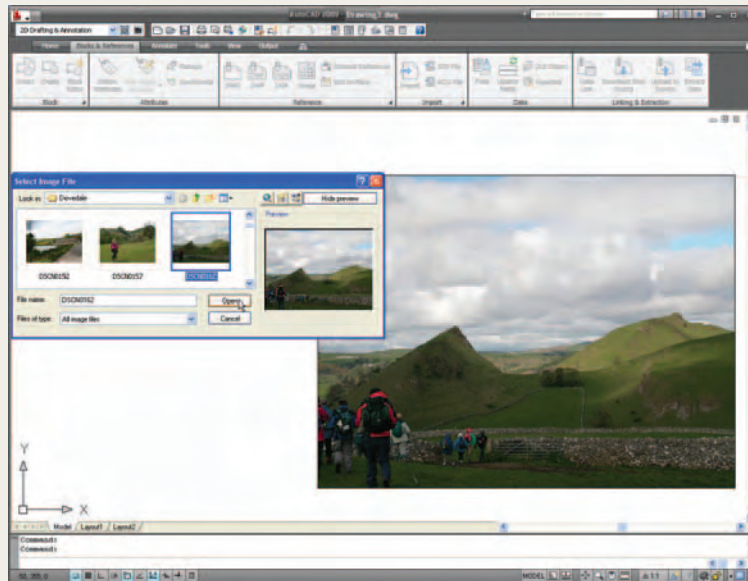

Fig. 10.31 Exercise 3 – example
3. Click **Image...** in the **Reference** panel and insert a **JPEG** image (*.jpg file) of a photograph into the AutoCAD 2009 window. An example is given in Fig. 10.31.